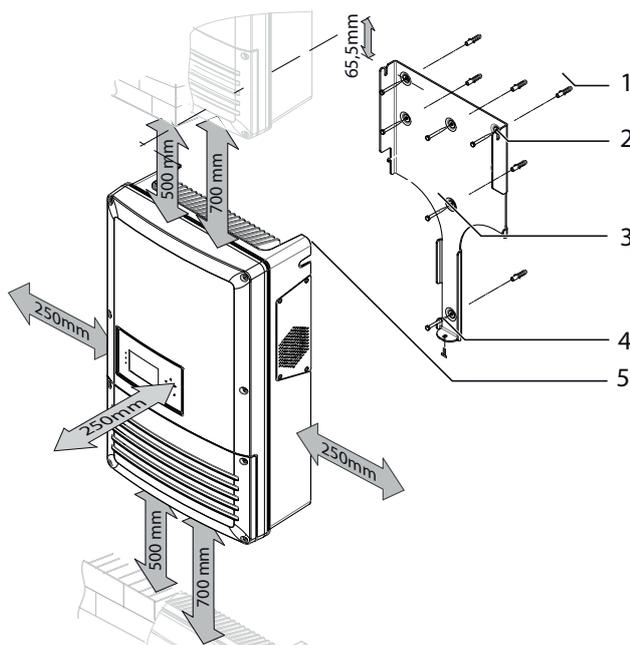

Figure 10: Minimum distances/wall bracket
- Minimum clearances to be observed during assembly: see Figure 10 on page 15.